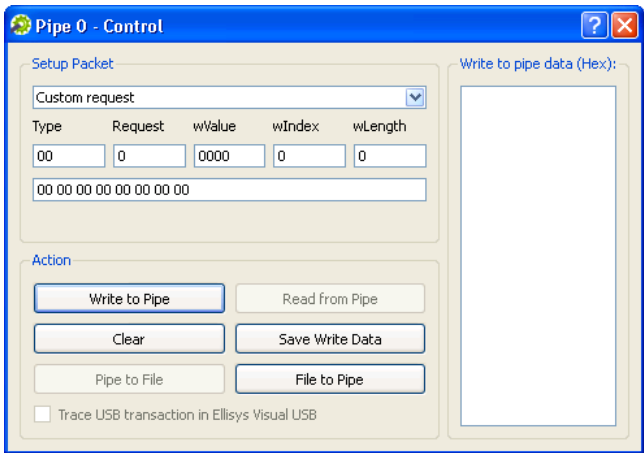

Figure 5.7: USB Control Transfers
- ii. For a control pipe (a bidirectional pipe), click **Read / Write**. A new dialogue will appear, allowing you to select a standard USB request or define a custom request, as demonstrated in Figure 5.7.